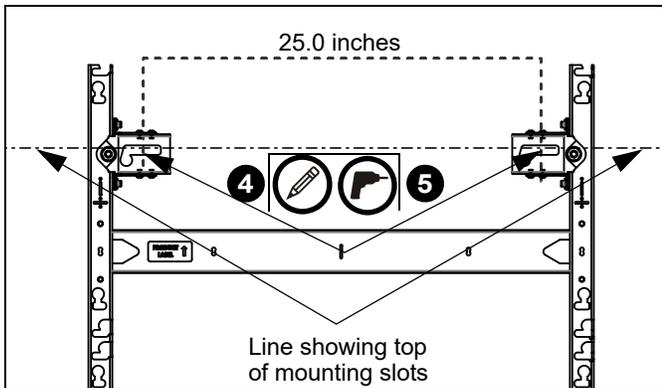

Figure 5
4. Mark mounting holes in two top mounting slots along the horizontal line marked in Step 3 of **Assessing the Installation Site** section. (See Figure 5)
NOTE: The mounting holes are 25.0" apart on-center. (See Figure 5)
5. Drill two pilot holes (see Table 1 for size) at each location marked in Step 4 (See Figure 5) and follow fastener information (appropriate for wall type) located in Table 1.